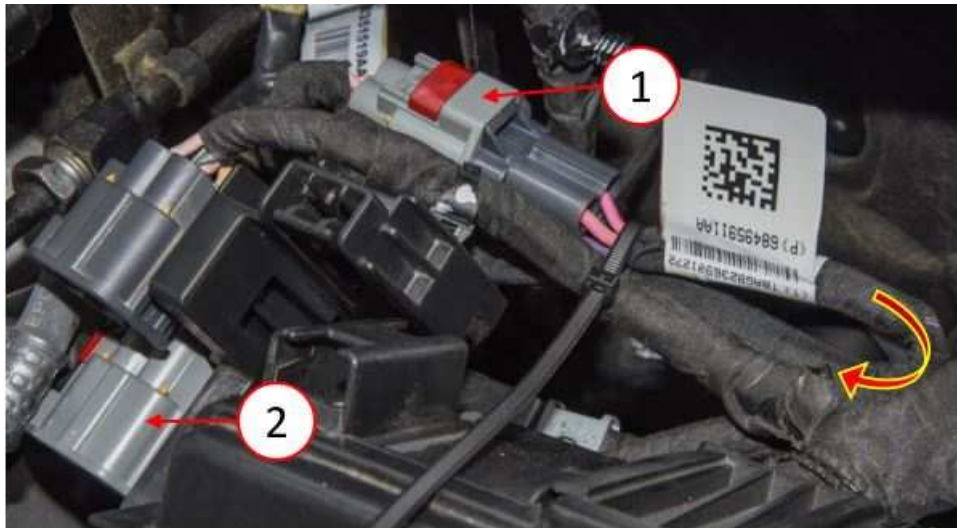

Fig. 7
12. Zip tie PTO jumper harness to the main harness, (Fig. 7) .